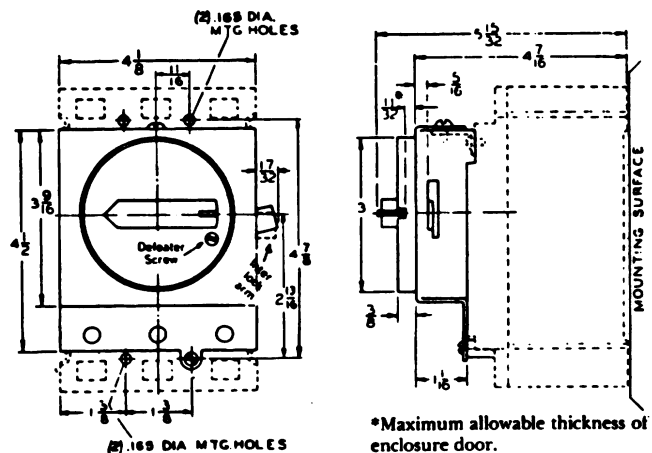
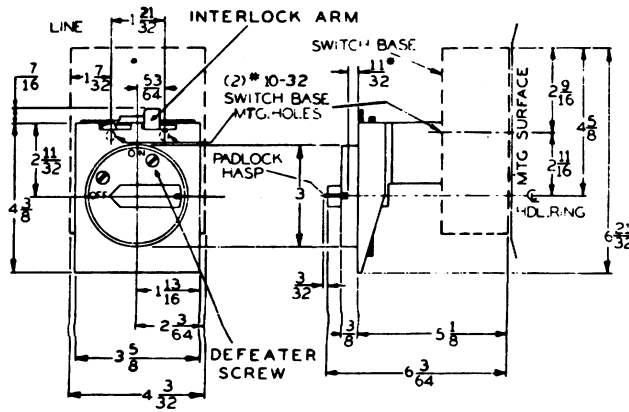

Figure 1. (TEFR1B, TEFR1HB)
Figure 7. (THMR1B, THMR1HB)
2. Dimensions for protective devices, integral handles and mounting holes are contained in Figures 1–9. Be sure to note the important dimension from the mounting surface to the front of the integral handle's pan.
NOTE: Figures 1–9 depict vertical mountings. For perspective of horizontal mounting, rotate each diagram 90° counterclockwise.
1. Close enclosure door. Turn handle to ON. Door should not be able to open with handle in ON. To open door, turn defater screw (circuit breakers, Figure 1; switches, Figure 7), on indication plate, counter clockwise, or turn handle to OFF.
2. Open enclosure door. Open door should prevent turning disconnect ON without first defeating interlock. For circuit breakers (Figure 1), the interlock arm must be pushed toward the mounting
surface and held. For switches (Figure 7), push the interlock arm to the right and turn the handle ON.